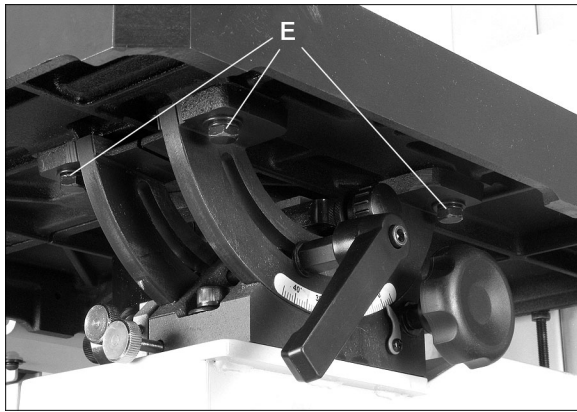

Figure 10
5. If miter slot is not parallel to blade, loosen four screws (E, Figure 10) that secure table to trunnion, and shift table as needed until miter slot is parallel to blade.